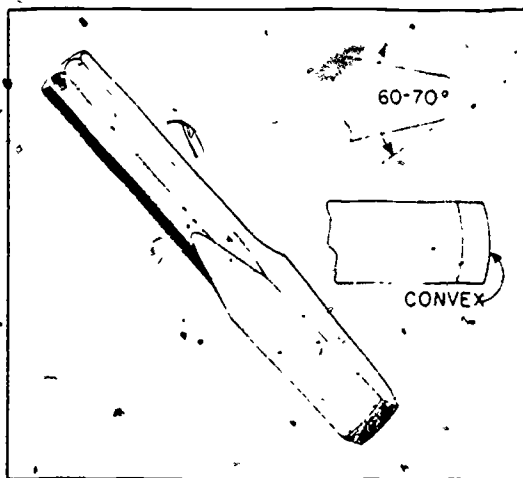

Figure 3-21 Cold chisel
**Cold chisel.** Cold chisels are tools used to cut or chip metal. The flat chisel, like the one shown in figure 3-21, is used by the plumber to cut cast-iron soil pipe and sheet metal. Keep the cutting edge sharp and ground to the original angle. The cutting angle is determined according to the hardness and softness of the metal to be cut. A cutting edge angle of  $70^\circ$  is fine for most light metals; however, an angle of  $90^\circ$  is recommended for hard and tough metal